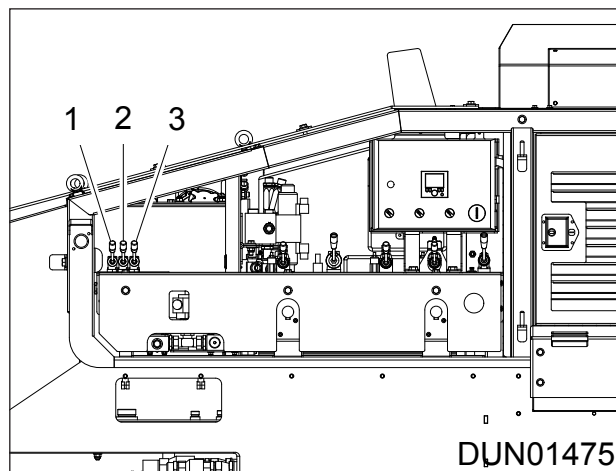
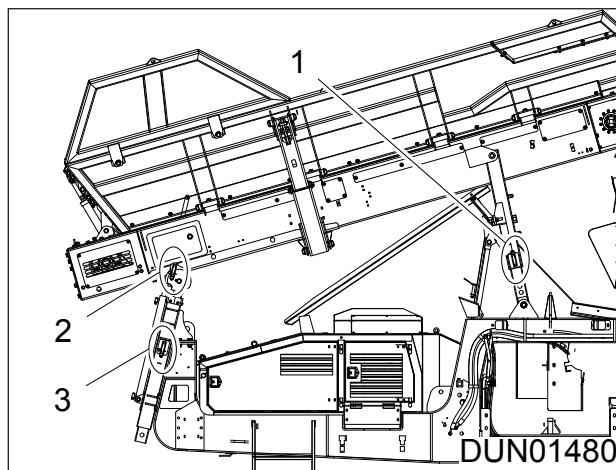
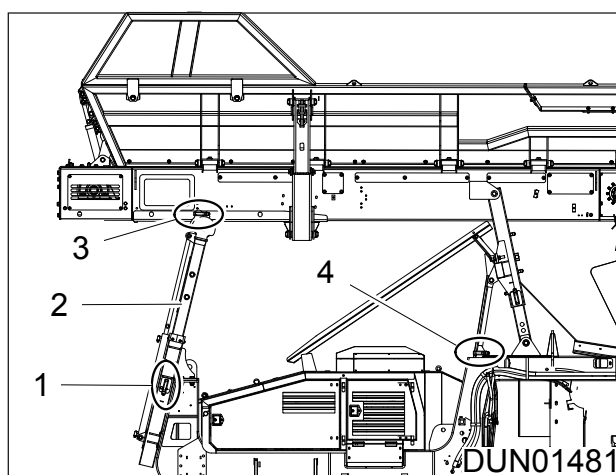

Figure 6.27 - Control Levers
Figure 6.28 - Raising to Horizontal
Figure 6.29 - Hopper in Horizontal Working Position
3. Operate lever 3 (Ref. Figure 6.27) to raise the front strut to the third pinning location (Item 1; Ref. Figure 6.28).
4. Remove pins (Items 2 and 3; Ref. Figure 6.28).
5. Operate lever 2 (Ref. Figure 6.27) to raise the rear strut (Item 2; Ref. Figure 6.29) to the horizontal position.
6. Insert pins (Items 1, 3 and 4; Ref. Figure 6.29) to secure the hopper in the Horizontal Working position.